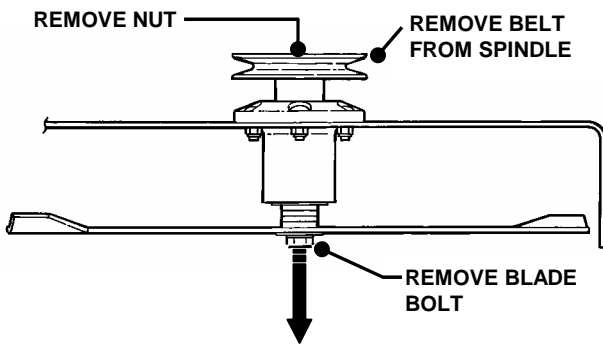

FIGURE 4.11
1. Remove belt. Loosen blade nut and remove. Allow blade bolt, washer, blade and four spacers to drop down out of the spindle housing. See Figure 4.11.